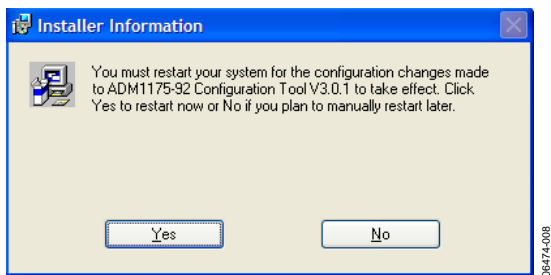

Figure 9. Installation Restart Reminder
8. Click **Finish**. The **Installer Information** window appears indicating that you should restart the system for the configuration changes to take effect (see Figure 9). It is advised to restart your PC before launching the software. Click **Yes** to restart the PC or click **No** to manually restart later.